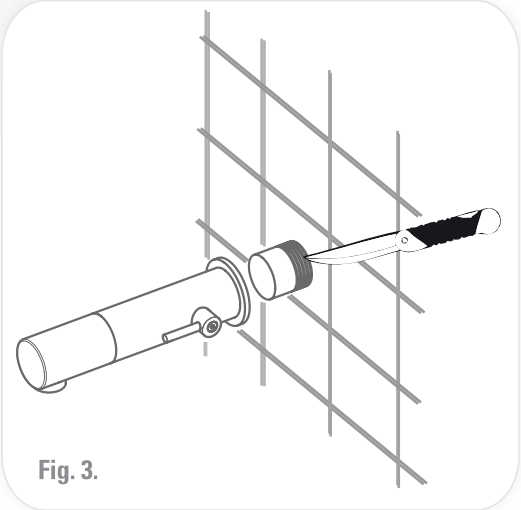

Fig. 3.
8. Once the works on electricity, plumbing and tiles have been finished, cut the temporary protective cover at the proper mark at the wall level. *See Fig. 3.*